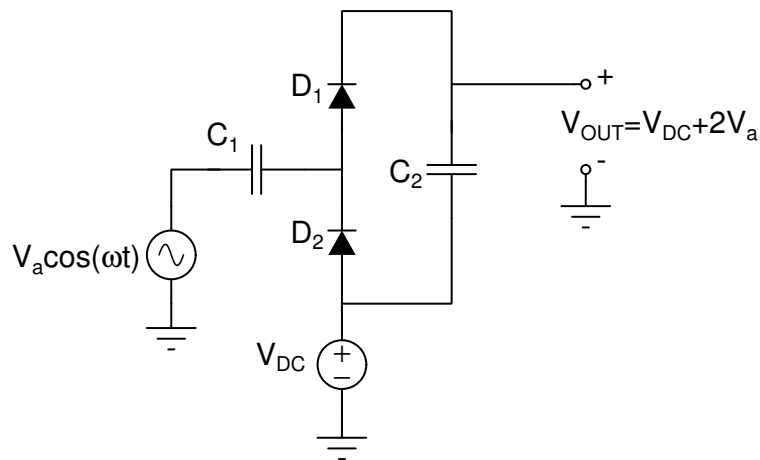

Figure 2: Villard voltage doubler circuit.
2. You can use The Villard voltage doubler, as shown in Figure 2, as a basis for the DC/DC converter.